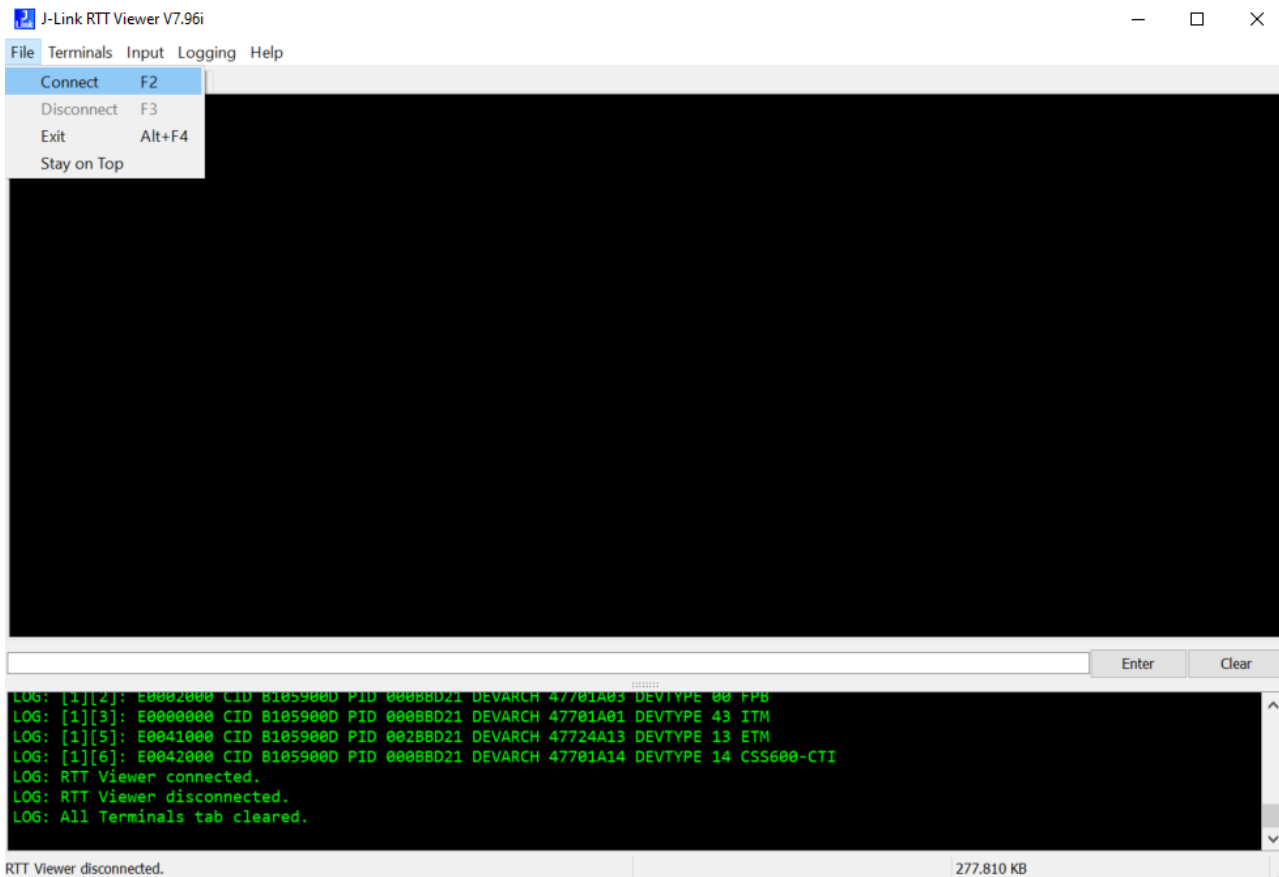

Figure 12. RTT Viewer
- Open the J-Link RTT Viewer (see Figure 12).